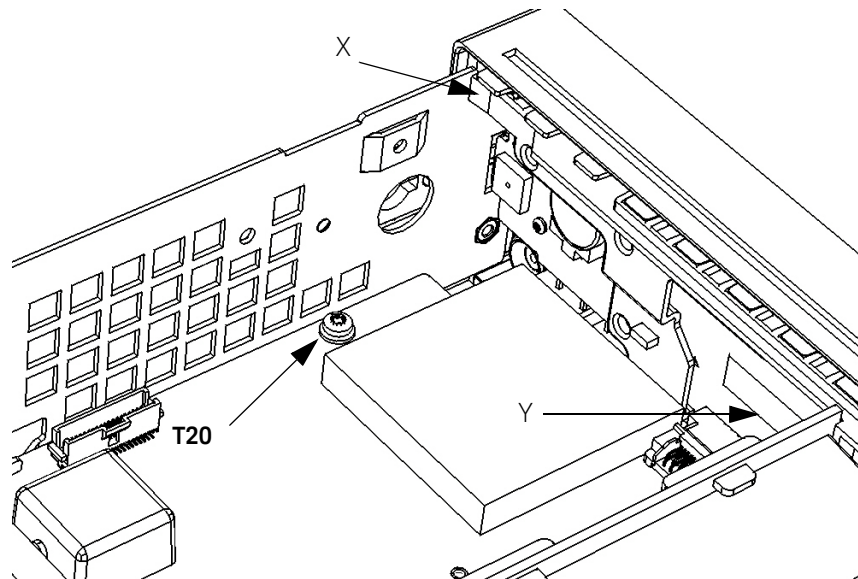

Figure 4-10 T20 TORX screw on motherboard
- 5 Turn the counter chassis upright and position the counter as shown in Figure 4-10.
- 6 Remove the T20 TORX screw on the front left-hand side of the motherboard as shown in Figure 4-10.
- 7 With your right hand, press in on the plastic tab (X on Figure 4-10) at the top left front of the front panel, while at the same time, use your left hand to press in on the front of the left-hand aluminum chassis side-panel, so that the front of the side-panel overlaps the depressed tab and keeps it depressed. The left front standoffs should now be free of their holes.
- 8 On the middle front right-hand side of the front panel, pull the plastic tab (Y on Figure 4-10) carefully toward the rear of the chassis and simultaneously press in the right side panel of the aluminum chassis until the front panel is partially released. The right front standoffs should now be free of their holes.